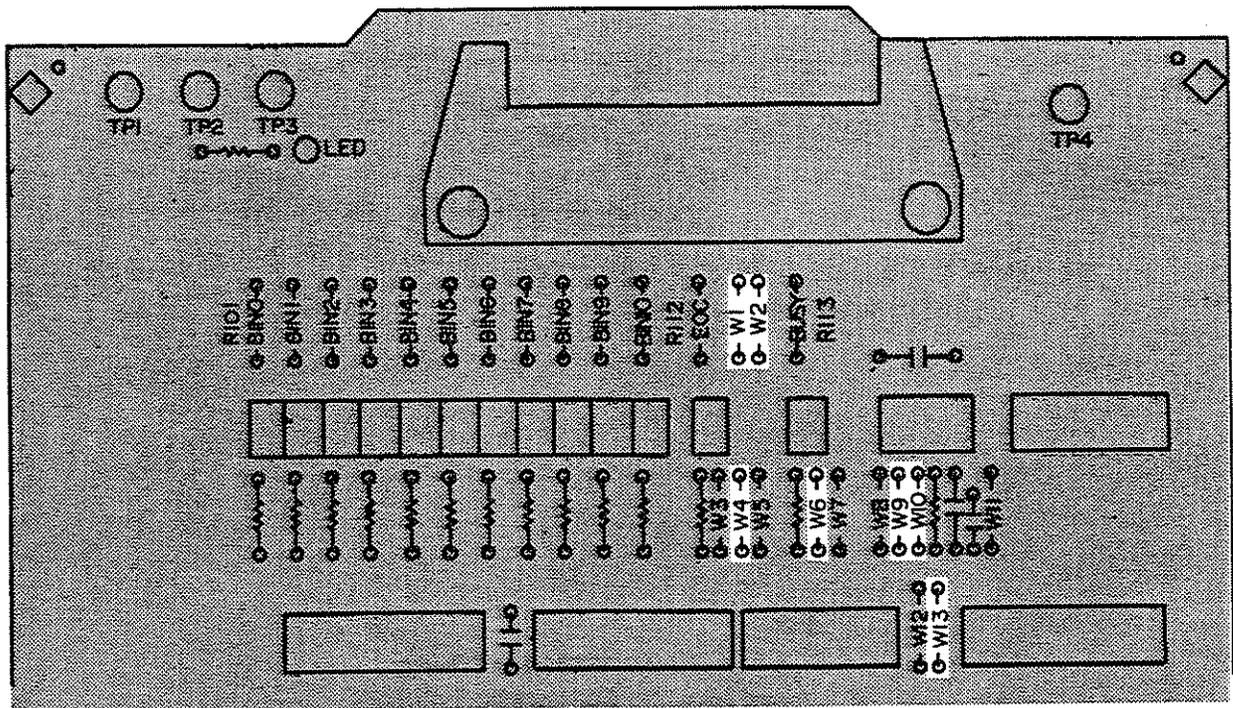

Figure 3-11. RTR2 Jumper and Pull-Up Resistor Locations
2. Configure the following interface signals by installing the jumpers as shown in Figure 3-11.
3. Bring +5 V out through pins 12 and 17 of the handler interface rear panel connector (install a jumper at W1 for +5 V and at W2 for the COMMON connection). Refer to Figure 3-11 for the locations of W1 and W2.